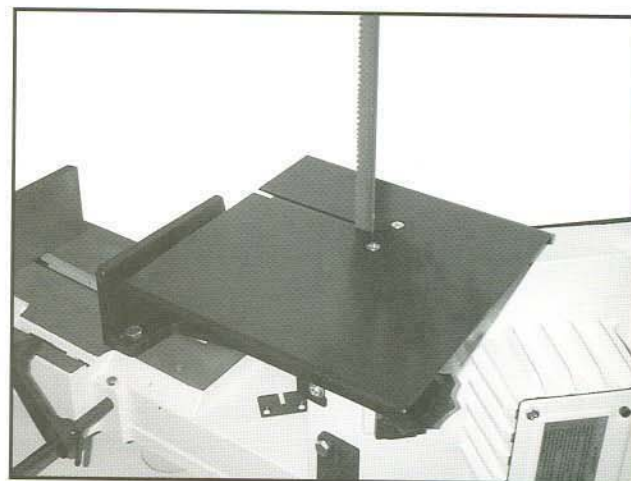

Fig. 4
4. Guide the blade through the slot in the table and fasten with two screws. See Fig. 4.